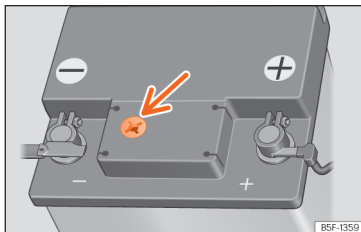

Fig. 188 Sight glass on the top of the 12-volt battery (schematic representation).
- Check the colour display in the sight glass on the top of the battery >>> **Fig. 188**.